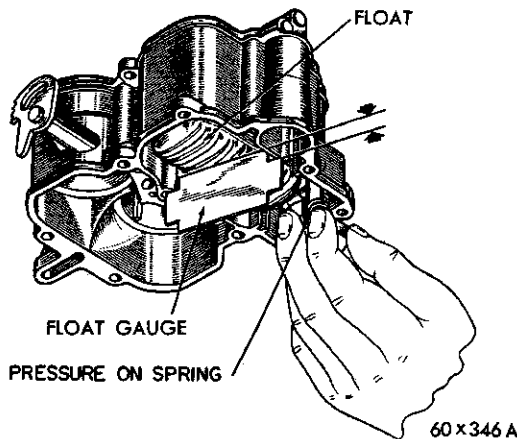

Fig. 15—Measuring the Float Setting
(1) Invert the main body so that the weight of the floats only is forcing the needle against the seat. **Be sure hinge pin does not drop out of the float hinge.**
(2) Using Tool 73725 or a "T" scale, measure the float level, as shown in Figure 15. There should be 1/8 inch from the surface of the fuel bowl to the crown of the float at the center.